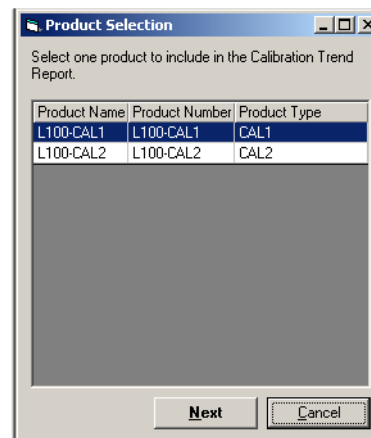

Figure 5-27 Product Selection Dialog Box
2. Select **Calibration Trend Report** or **System Control Trend Report** and click **Next**. The product selection dialog box opens displaying the selected report. See Figure 5-27.